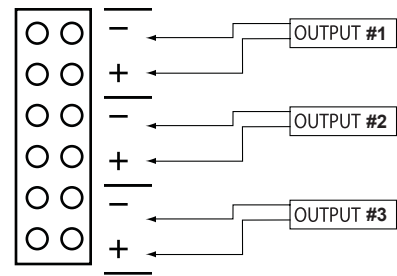

fig 3.1
- ① Make sure 120VAC service is off at power supply (Breaker should be shut off).
- ② Make sure 120VAC supply wire is rated at 90° C or higher.
- ③ Connect 120VAC supply wire to the AC pigtail labeled AC/N.
- ④ Restore AC power to the power supply. Red LED should now be on.
- ① Shut off breaker supplying AC power to the power supply.
- ② Using the wiring diagram in fig 3.1, wire your exit devices.
- ③ Restore power to power supply and trigger the devices to make sure they are working correctly.